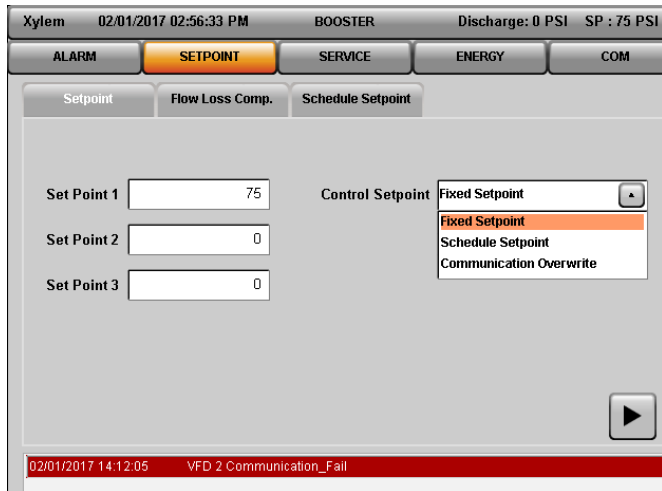

Figure 5.4.1 – Setpoint Configuration Page
- **Fixed Setpoint** –When Fixed Setpoint is selected as Control Setpoint option, then Setpoint is considered from the value in Set Point 1, Set Point 2 and Set Point 3 as shown in figure 5.4.1.